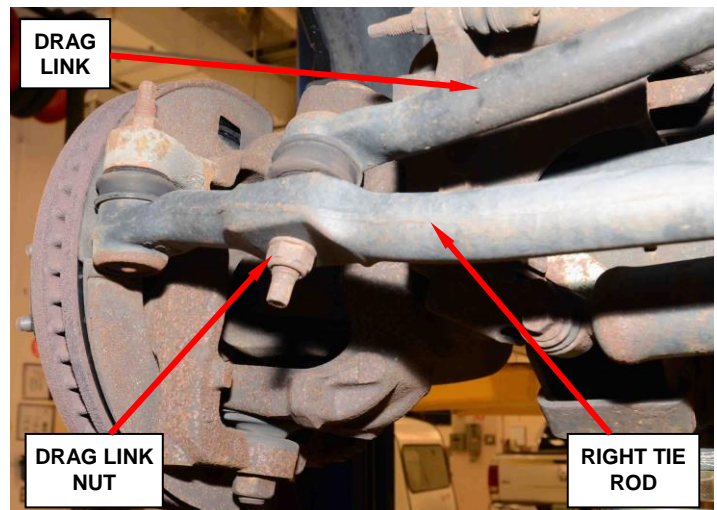

Figure 4 – Drag Link Nut
5. Remove and discard the drag link nut at the right tie rod (Figure 4).